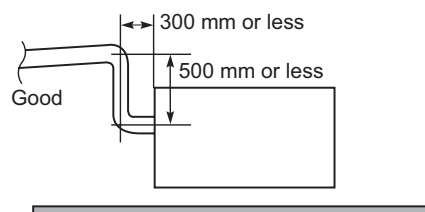

Fig. 2-97
- If it is necessary to increase the height of the drain pipe, the section directly after the connection port can be raised a maximum of 500 mm. Do not raise it any higher than 500 mm, as this could result in water leaks. (Fig. 2-97)